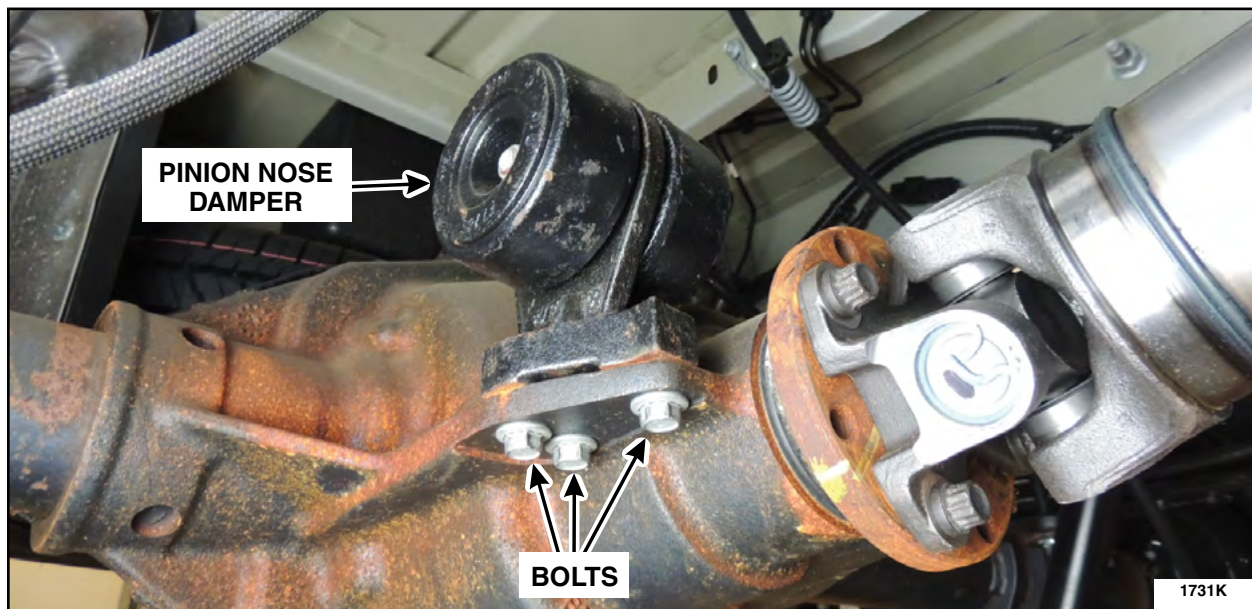

FIGURE 14
1. If a pinion nose damper is present, remove and discard the three bolts and the original pinion nose damper located on the RH side of the rear axle center housing. See Figure 14.
2. Install a *new* pinion nose damper and tighten the three bolts. See Figure 14.